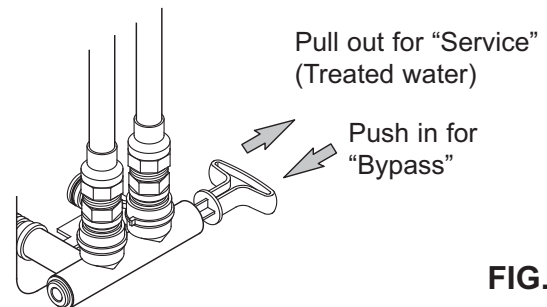
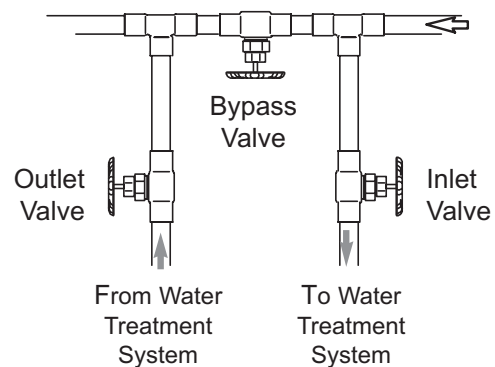

FIG. 7
FIG. 8
Always install either a single bypass valve (provided), as shown in Figure 7, or, if desired, parts for a 3 valve bypass system (not included) can be purchased and assembled, as shown in Figure 8. Bypass valves allow you to turn off water to the system for maintenance if needed, but still have water in house pipes. Pipe fittings must be 1.9 cm minimum.
CAUTION: The house cold water pipe (metal only) is often used as a ground for the house electrical system. The 3-valve bypass type of installation, shown in Figure 8, will maintain ground continuity. If you use a plastic bypass valve at the unit, continuity is broken. To restore the ground, do the following:
3. Place bypass valve(s) in "bypass" position (see Figures 7 & 8). On a single valve, slide the stem inward to bypass. On a 3-valve bypass, close the inlet and outlet valves and open the bypass valve.